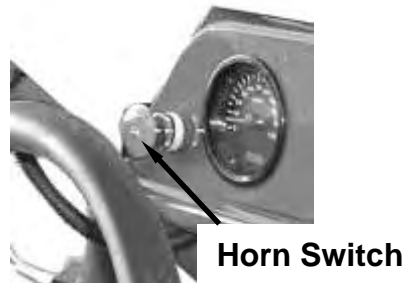

FIGURE 6
- 9) **Park Brake Light switch:** control the 4 turning lights on or off. Pull the park-brake-light switch out and the 4 turning lights illuminate together. (See figure 6)